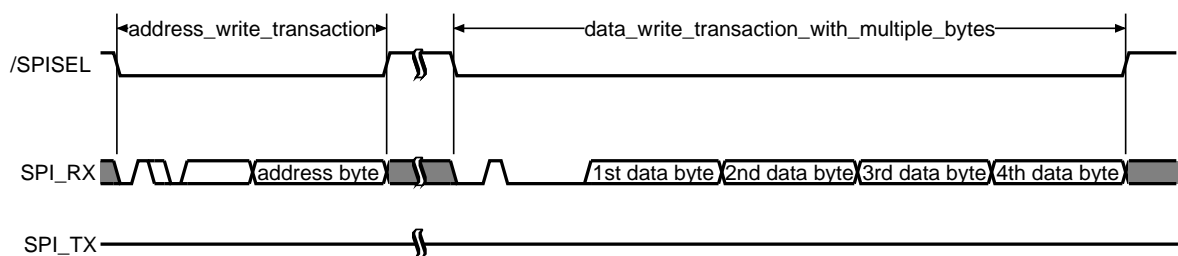

Figure 2.16: Register write access with a 40 bit transaction
3. Another way of writing multiple bytes into the same register is available with the 40 bit write transaction (Figure 2.16). With the first transaction (16 bits) the SPI master specifies the register address (control byte is '01X0CCCC'). Afterwards, four new register values are transferred from the SPI master to XHFC-2S4U/4SU (control byte is '0010 0000').